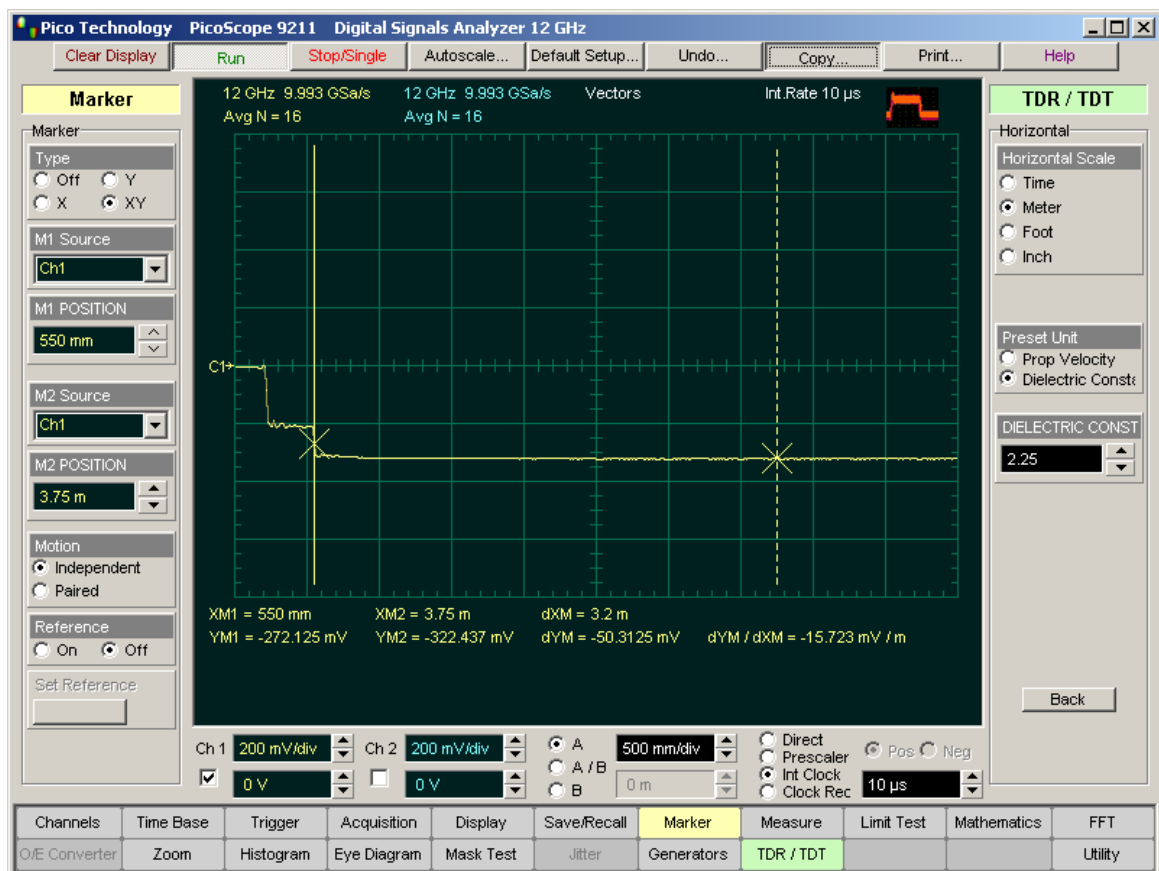

Figure 1
12. Place marker **M1** on the reflection from the open-circuit Reference Plane. See Figure 1.